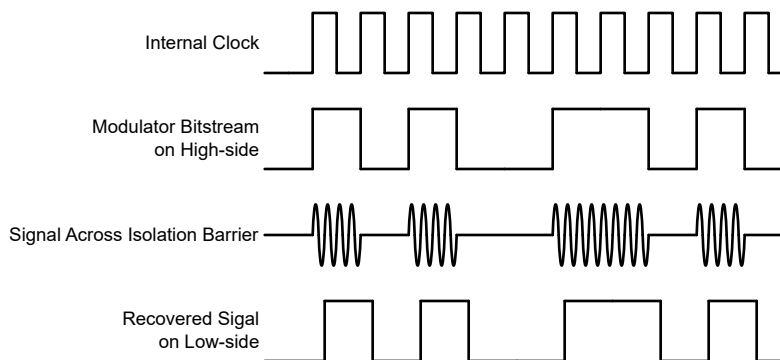

Figure 7-3. OOK-Based Modulation Scheme
As shown in Figure 7-3, the AMC0x36 uses an on-off keying (OOK) modulation scheme to transmit the modulator output bitstream across the SiO₂-based isolation barrier. The transmit driver (TX) is illustrated in the *Functional Block Diagram*. TX transmits an internally generated, high-frequency carrier across the isolation barrier to represent a digital one. However, TX does not send a signal to represent a digital zero. The nominal frequency of the carrier used inside the AMC0x36 is 480MHz.